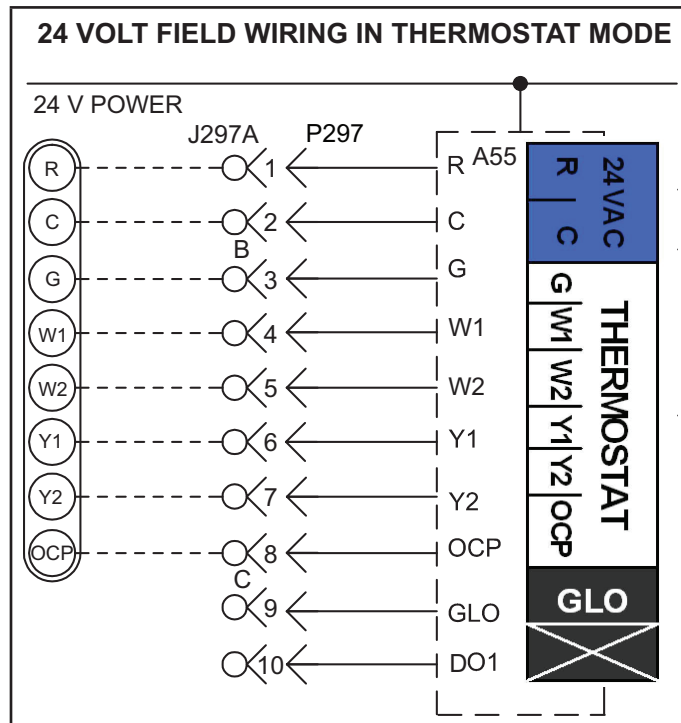

FIGURE 15
- 4 - Wire as shown in FIGURE 15 for electro-mechanical and electronic thermostats. If using other temperature control devices or energy management systems see instructions and wiring diagram provided by manufacturer.